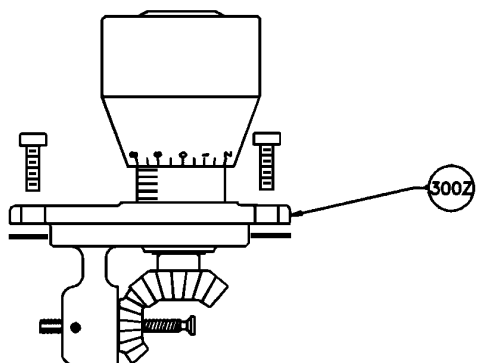

Figure 55. Manual Stroke Adjuster Assembly.
6.22 MANUAL STROKE ADJUSTER ASSEMBLY (FIGURE 55)